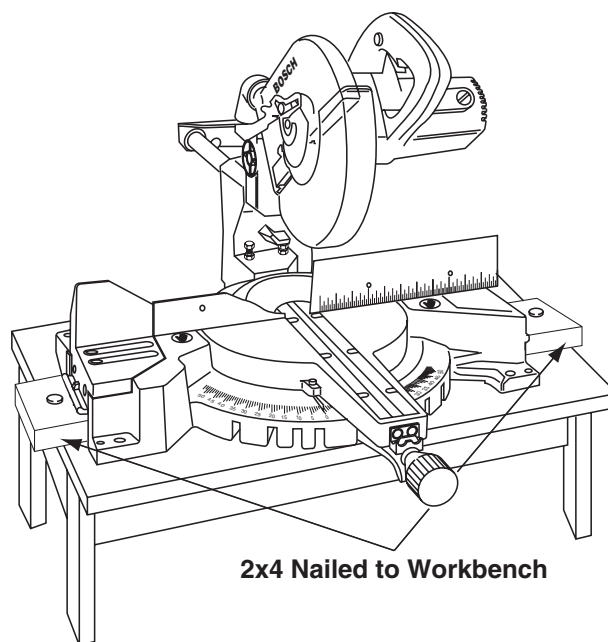

**Figure 16. Portable Mounting Using Clamps**
- Place two (2) or more “C” clamps on the clamping areas and secure (Figure 16).